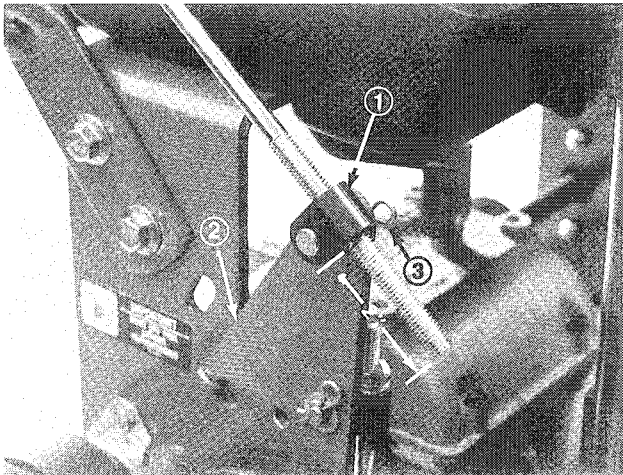
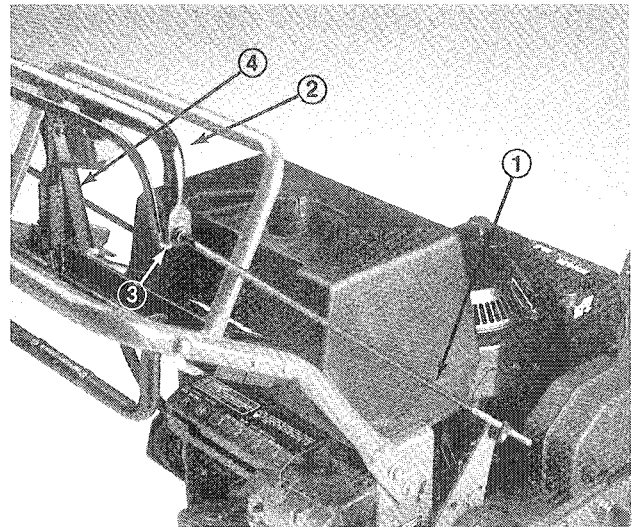

Figure 7
Figure 8
1. Thread a rod fitting onto each control rod approximately 2" (Fig. 7) or until upper control rod (Fig. 8) is perpendicular to ground.
2. Mount rod fitting ends to mounting holes in idler brackets (from outside) with clevis pins, washers and hairpin cotters (Fig. 7).
3. Check gap between control bar and upper handle when fully engaging wheel belts. Gap should be approximately 1 to 1-1/4" (Fig. 8).
5. Brake rods should be adjusted so parking brake lever can be swung into a snug position against the upper handle while pulling back on upper control bar (Fig. 8).